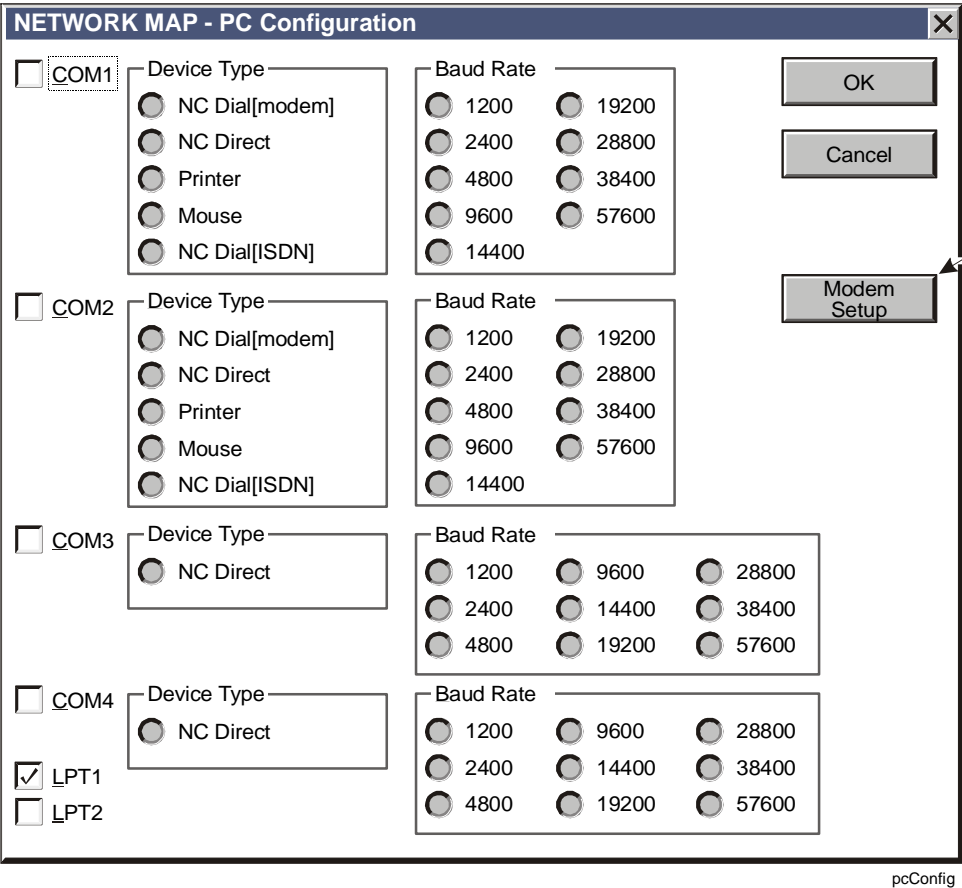

Figure 22: PC Configuration Screen
2. Select PC Configuration. Figure 22 shows the PC Configuration screen with the Modem Setup button.